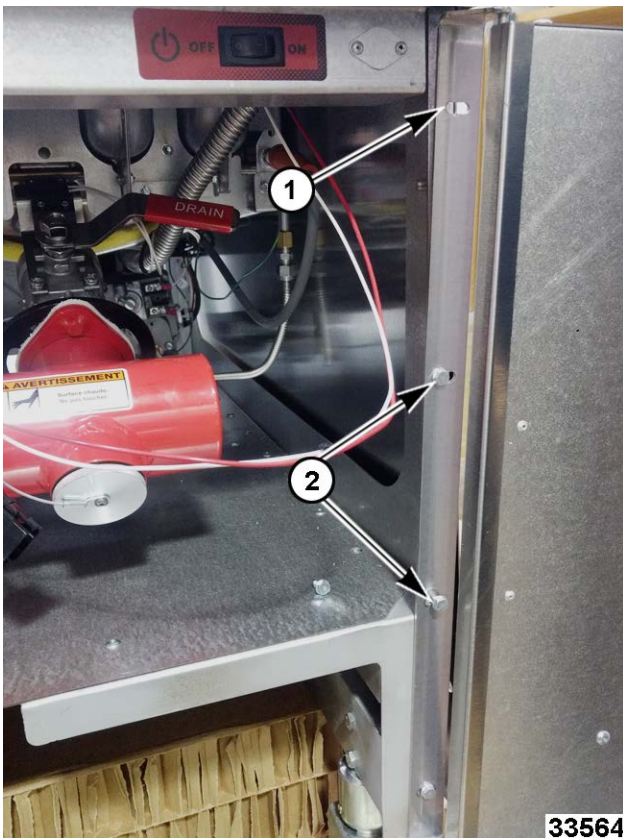

Fig. 16
5. Remove top door mounting screw (1, Fig. 16) and loosen two screws (2, Fig. 16) below.